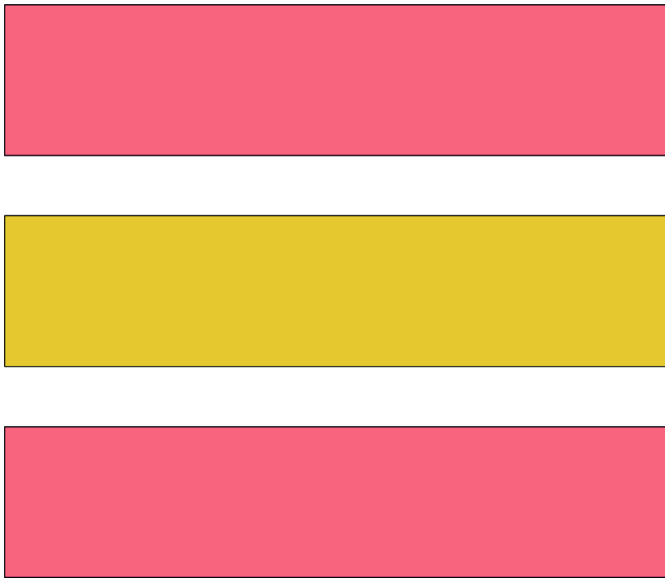

Figure 16
17. Use the two 2-1/2" x 11" Fabric E strips and the 2-1/2" x 11" Fabric D strips to construct the second set of 9-Patch strip components. Arrange the strips with Fabric E on the top and bottom and Fabric D in the middle. (Figure 16)